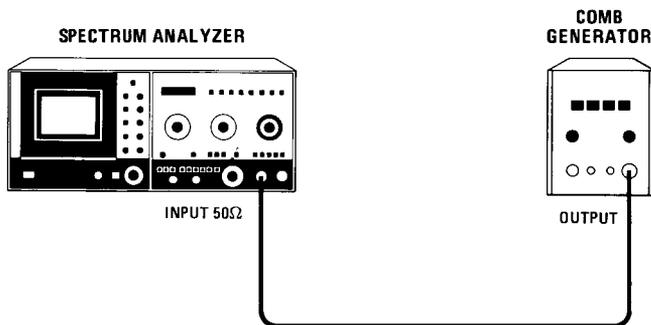

Figure 4-10. Noise Sidebands Test Setup
- b. Connect comb generator output to spectrum analyzer INPUT as shown in Figure 4-10. Set comb generator for maximum output amplitude.